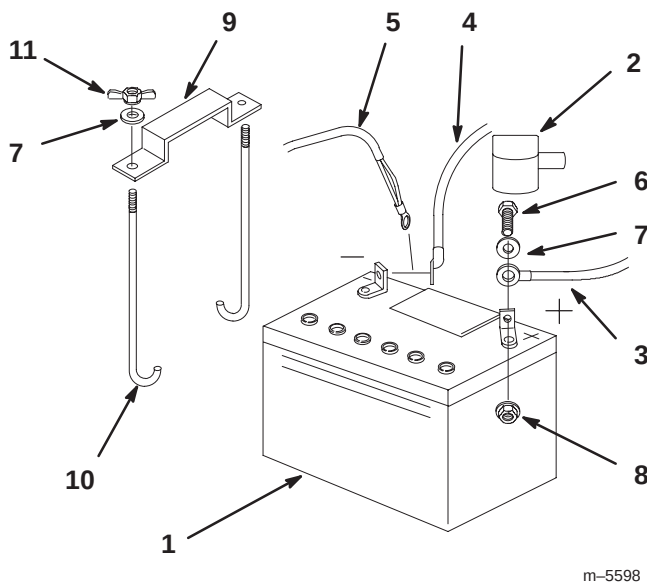

Figure 57
1. Position battery in tray with terminal posts toward the engine (Fig. 57).
4. Secure cables with 2 bolts (1/4 x 3/4 in.), 2 washers (1/4 in.), and 2 locknuts (1/4 in.) (Fig. 57).
6. Secure battery with J-bolts, hold down clamp and 2 washers (1/4 in.), and 2 wing nuts (1/4 in.) (Fig. 57).
3. First disconnect the negative battery cable and ground wire from the negative (–) battery terminal (Fig. 57).
4. Slide the red terminal boot off the positive (red) battery terminal. Then remove positive (red) battery cable (Fig. 57).
5. Remove both wing nuts (1/4 in.) securing the battery clamp (Fig. 57).